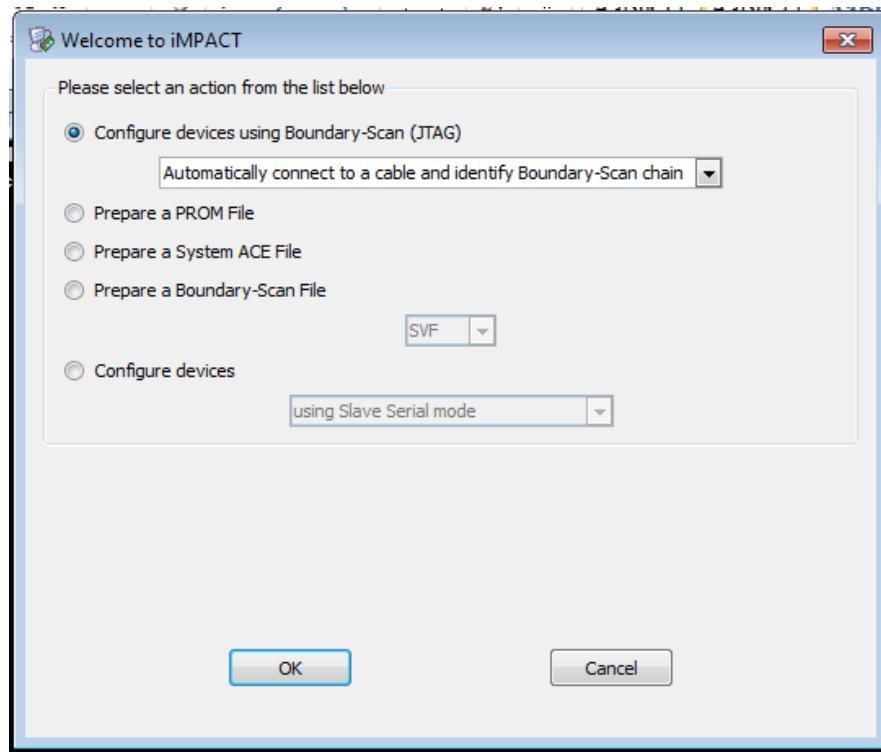

Figure 30: Automatic device detection dialog box.
7. In the next dialog box, choose the option shown in figure 30 and click “OK.” The system should automatically detect the FPGA device. If so, skip to step 10. If not, continue with the next step.